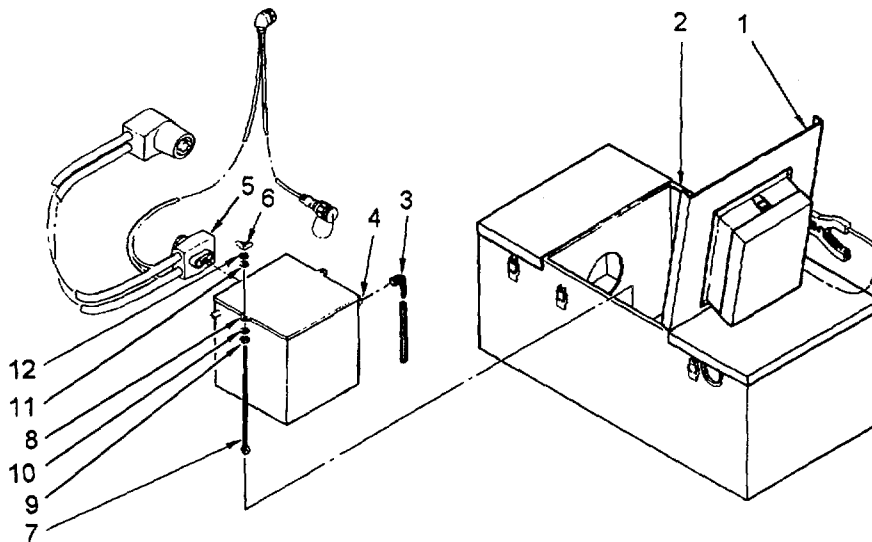

Figure 4-24. Battery Replacement
4.15.1 Replace Battery. (Refer to figure 4-24.)